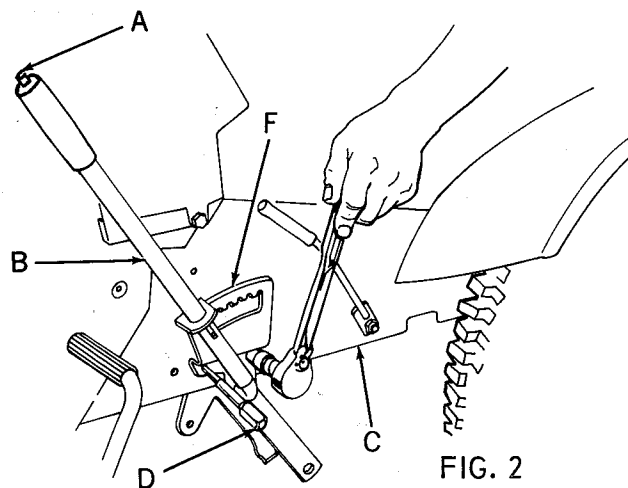

FIG. 2
2. Refer to Fig. 2. Depress button (A) on top of lift lever, and move lift lever to center of quadrant (F). Release button, lever will lock in notch of quadrant. NOTE: Make sure threads in mounting channel are free from paint.
3. Refer to Fig. 2. Position lift lever assembly (B), under tractor (C) with lever to left hand side of tractor. Raise the lift lever assembly into position, so that quadrant (F) will be outside of tractor, and mounting channel (with threads) will be inside tractor frame. Line up front hole in quadrant, L.H. tractor frame, and mounting channel. Insert punch (D) (or similar tool) to keep holes in line.
5. Refer to Fig. 2. Line up rear hole of quadrant (F), L.H. tractor frame (C), and mounting channel. Secure with a 3/8 x 1 hex bolt, and lockwasher provided.
6. Remove punch (D) or similar tool from front hole of quadrant (F), and secure with a 3/8 x 1 hex bolt, and lockwasher provided.
7. Depress button (A) (Fig. 2) on top of lever, and move lever forward and backward. Then tighten all 3 bolts securely.